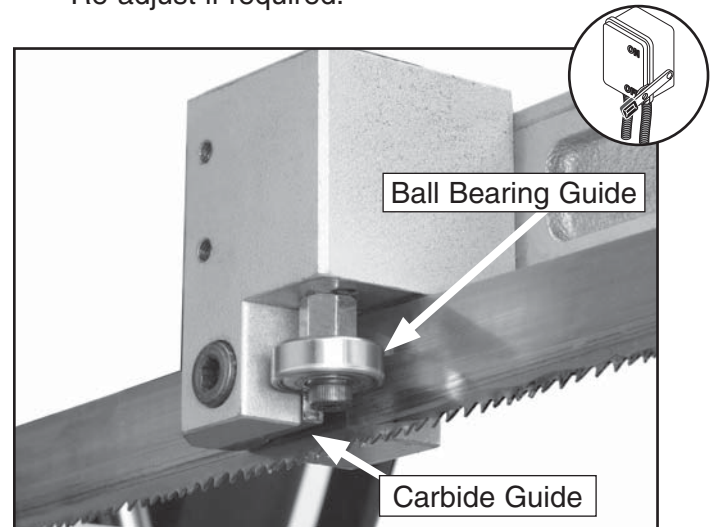

Figure 46. Guide types.
- When finished with the carbide guide adjustments, make sure the ball bearing guide (**Figure 46**) adjustments have not changed. Re-adjust if required.